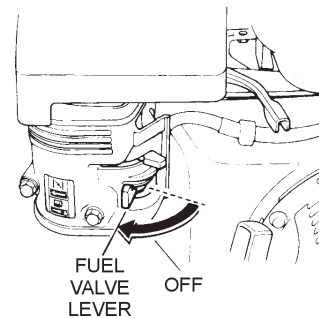

Figure 24. Fuel Valve Lever (OFF)
- Place the **fuel shut-off lever** (Figure 24) in the **OFF** position.